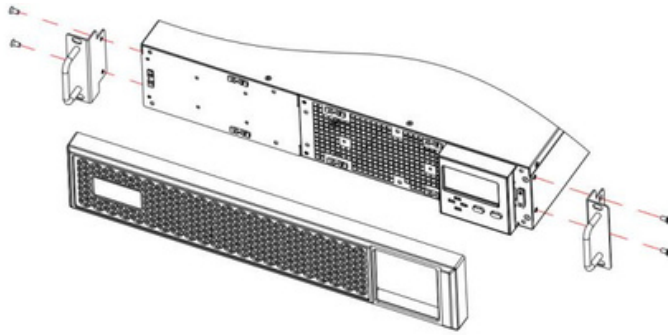

Fig.5-2 Removing the front plastic bezel cover
1. Remove the front plastic bezel cover gently and remove two brackets' screws, as shown in Fig.5-2.